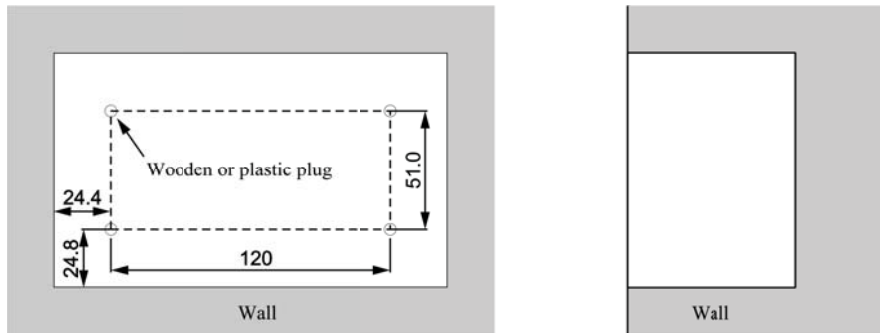

Fig. 3.12 Wooden wedge or plastic wedge
- 1) When the centralized controller is installed on the wall, dig a 168mm x 100mm x 52mm with length x width x depth installation hole on the wall, and nail 4 wooden wedges or plastic wedges at the positions shown in Figure 3.12.